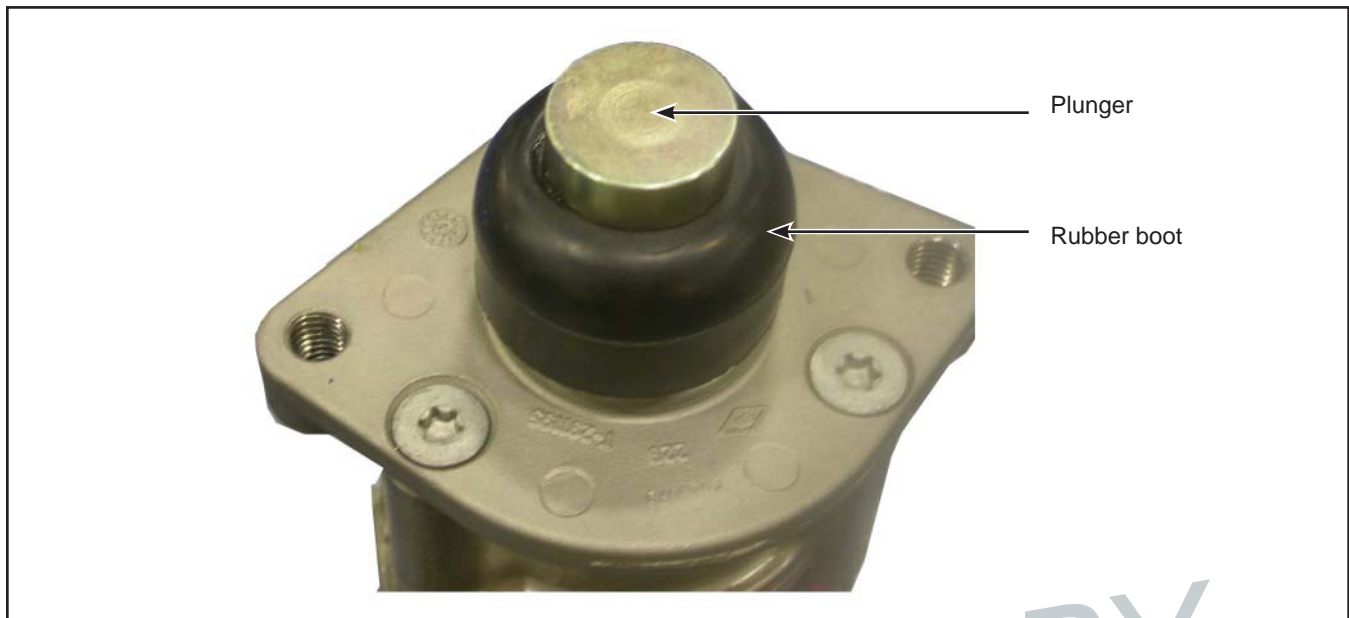

Figure 4 - Assembled Brake Valve
1.8. Install the boot rubber plunger onto the brake valve. See Figure 4.